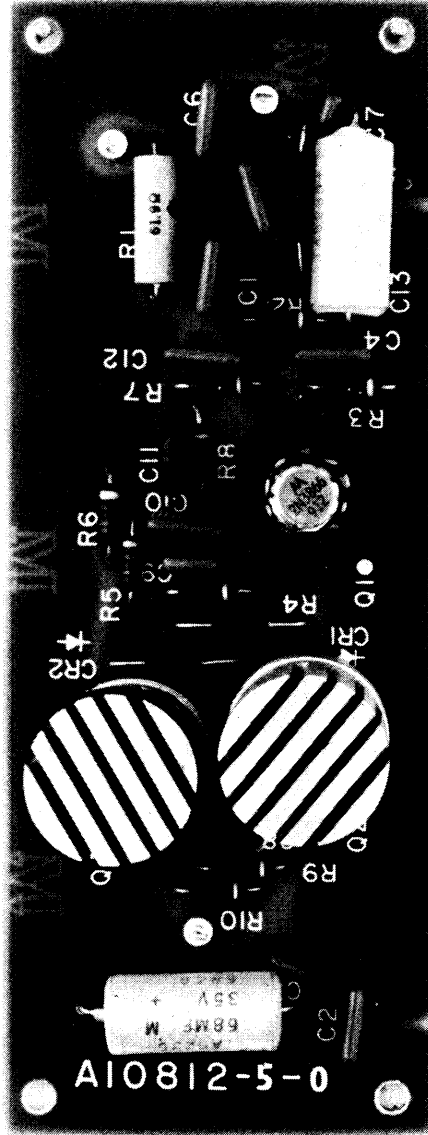

Figure 5-3 Preamplifier Assembly 1A2
(1) The preamplifier shown in Figure 5-3, with schematic diagram Figure 7-3, is mounted on a printed circuit board designated 1A2. It is a low-noise, wide band amplifier having a 75 ohm input impedance and a nominal voltage gain of 8.5 db.
(2) The input to the amplifier is RC coupled through 1A2R1, 1A2C1. This input drives a grounded-emitter buffer amplifier 1A2Q1.